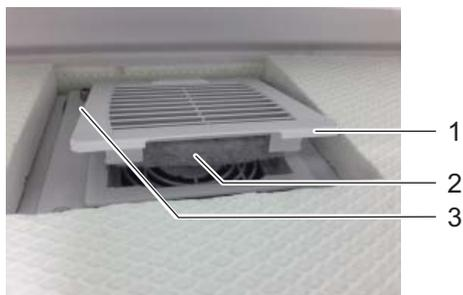

figure 5-15 Exchanging the upper filter mat
- 3 Open the upper filter mat holder with the aid of a screwdriver by levering it off and exchange the upper filter mat (see fig. 5-15,  137).